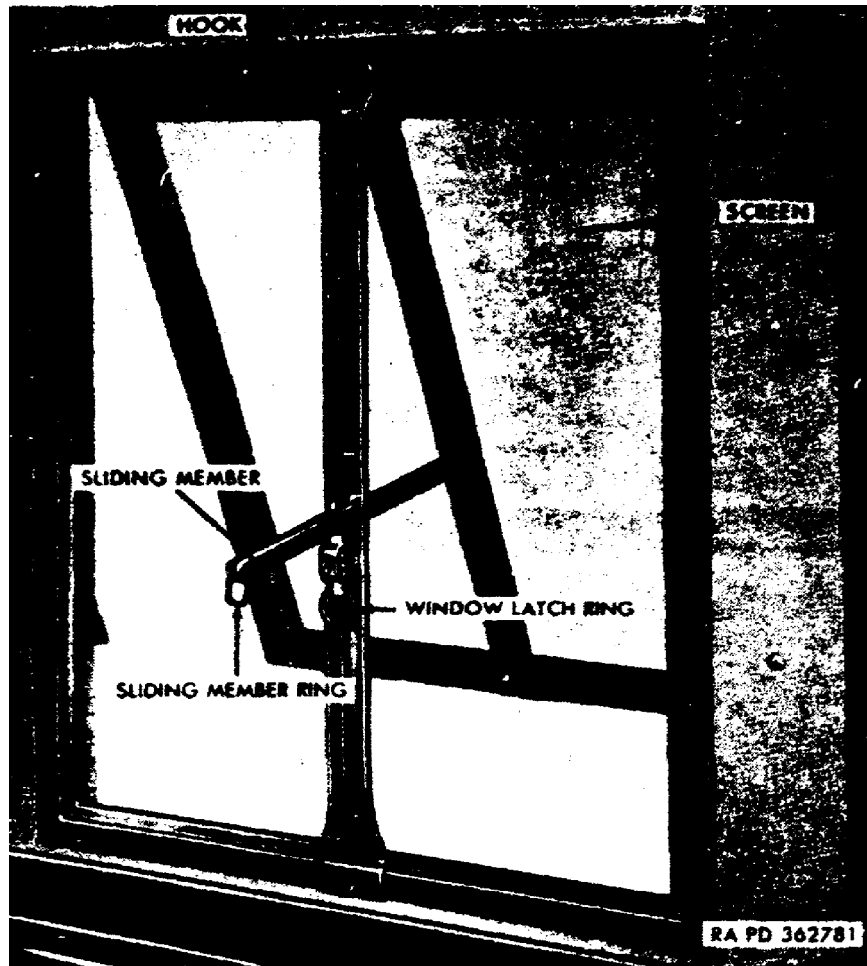

Figure 3. M109 shop van windows,
2. M109 VAN. The shop van truck M109 (fig 1 and 2) is basically equipped to serve as a mobile shop. The body is insulated against heat and cold through double panel construction with insulating material between panels. The windows (fig 3) are double glazed and equipped with blackout panels. Side sash insect screens are provided for all side window openings. These windows can be opened with blackout panels in place to act as a sunshade or with them in the stored position to allow maximum daylight inside. The front or rear door windows cannot be opened.